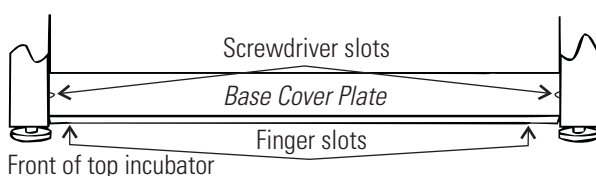

Figure 1-4. Remove Base Cover Plate
1. Designate one incubator to be the top unit and the other as the bottom unit. Remove the base cover plate from the top unit using the finger holes in the base or using a slotted screwdriver (Figure 1-4).